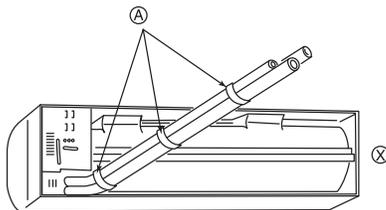
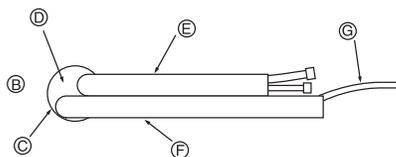

Fig. 3-4
Fig. 3-5
- ① Fasten a thread to the hole.
- ② The level can be easily obtained by hanging a weight from the string and aligning the string with the mark.
① Rear, right and lower piping (Fig. 3-4)
- (A) Vinyl tape
- (X) This figure is viewed from the back of the unit.
- ② Left and left rear piping
②-① For left rear piping, pull the pipes out the hole to determine their correct length, then bend them. The indoor unit should hang on the wall mounting fixture. (Fig. 3-5)
- (B) Wall
- (C) Wall hole
- (D) Bent section
- (E) Refrigerant pipe
- (F) Drain pipe
- (G) Transmission cable